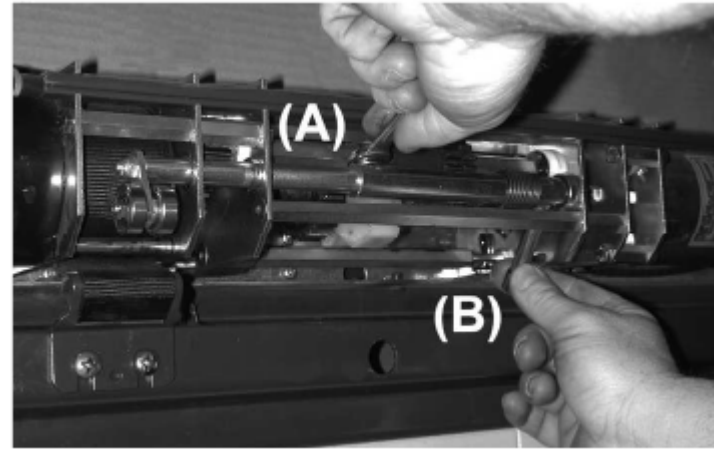

Figure 4-10
- 2) Hold the pin (B) and loosen the screw (A) with a 10 mm wrench (fig. 4-10);